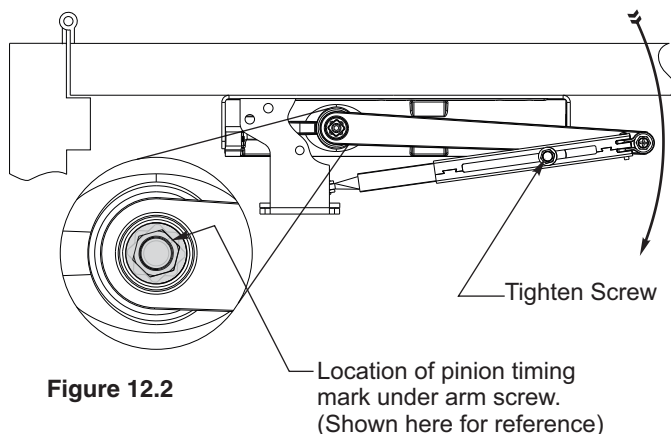

Figure 12.2
- Close door, re-install adjusting rod screw (Figure 12.2).
- Pull main arm and tube assembly away from door face as shown (Figure 12.2).
- Using 7/16" wrench, tighten adjusting rod screw to secure arm assembly at desire preload setting (Figure 12.2).